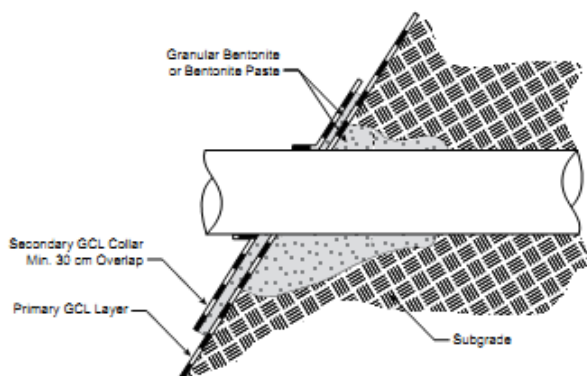
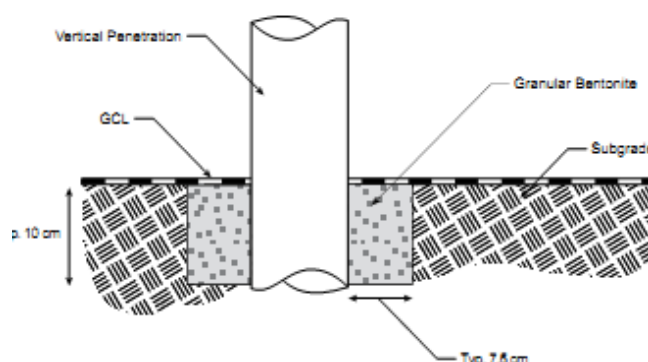

Fig. 13: Cross-Section of a horizontal pipe penetration
Fig. 15: Cross-section of a vertical penetration
2. The **Claymat GCL** should be sealed around penetrations and structures embedded in the subgrade in accordance with **Figures 13** through **16**. Granular bentonite shall be used liberally (min. 0.4 kg/m) to seal the **Claymat GCL** to these structures.
3. When the **Claymat GCL** is placed over a horizontal pipe penetration, a "notch" should be excavated into the subgrade around the penetration (**Figures 13 & 14**). The notch should then be backfilled with either granular bentonite or bentonite paste. A secondary collar of **Claymat GCL** should be placed around the penetration.
4. Vertical penetrations are prepared by notching into the subgrade as shown in **Figure 15**. A secondary collar can be placed as shown in **Figure 13 & 14**.